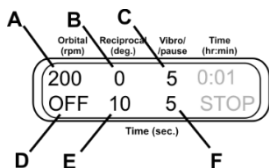
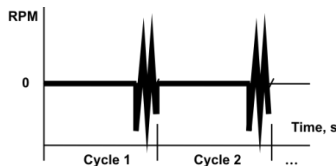

Figure 11.
Figure 12.
7.9.4. **Vibration + Pause.** Turn off Orbital motion by setting time of Orbital motion below zero (fig. 11/D, OFF). Set the amplitude of Reciprocal motion (fig. 11/B) to zero. Set the time for Reciprocal motion (fig. 11/E, 1–250 s), this is the time of pause duration. Set the amplitude (fig. 11/C, 0–5°) and time (fig. 11/F, 1–5 s) for Vibro motion. See figure 12 for process visualization.